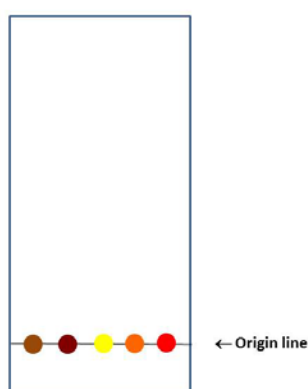

Figure 2: TLC Plate.
**Preparing a TLC Plate.** Obtain a TLC plate from your TA. Handle the plate carefully so that you do not disturb the adsorbent coating or get it dirty. As in Figure 2 at the end of this document, use a ruler and pencil to measure 0.5 inches from the bottom of the plate, and gently draw a line across the plate. This is the origin line where you will spot your samples on the plate. On the origin line, starting 0.5 cm from the end of the plate, make a small tick mark every 1 cm. You will be spotting a different sample on each tick mark: 1) pure ferrocene, 2) your product before running the column, 3) the yellow fraction, 4) the orange fraction, and 5) the red fraction (if you collect one). Mix a small amount of pure ferrocene with a minimal amount of hexanes. Using a microcapillary, spot the pure ferrocene on the first tick mark of the TLC plate. The remaining spots will be added later.